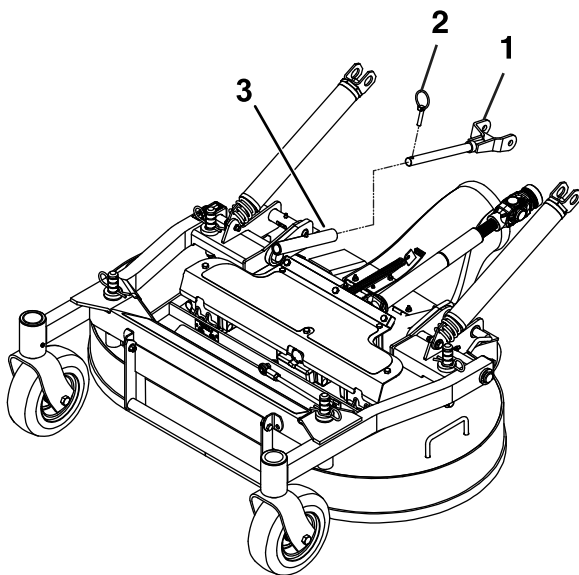

Figure 71
7. Remove the lynch pins at the front of the push arms on both sides of the machine (Figure 71).
7. Secure the push arms with the lynch pins on the left and right sides of the machine (Figure 71).